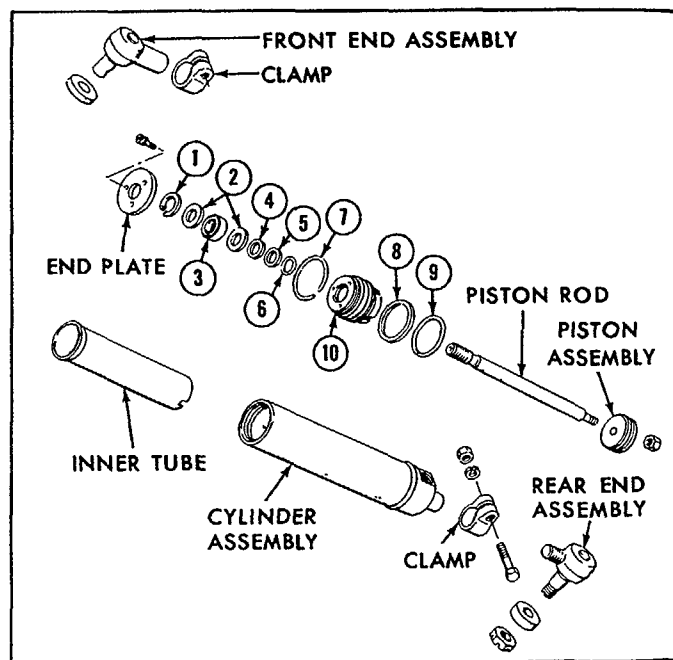

Figure 100
1. Remove the clamp bolts, nuts and lock washers, Figure 100, and separate the two end assemblies from the cylinder. Remove the clamps.
3. Depress the cylinder gland (10), Figure 100, and insert a punch through the hole in the side of the cyl-
KEY FOR FIGURE 100
seal kits are available: one which includes items (1) through (9), Figure 100; and one which includes items (1) through (10).
1. Install the piston assembly, Figure 100, on the piston rod and secure with the hex lock nut. Tighten the nut to a torque of 30-35 lbs. ft. (4.15-4.84 kgm).
2. Using a new seal kit, and if necessary, a new cylinder gland, install the items (1) through (10) onto the piston rod in the order shown in Figure 100.